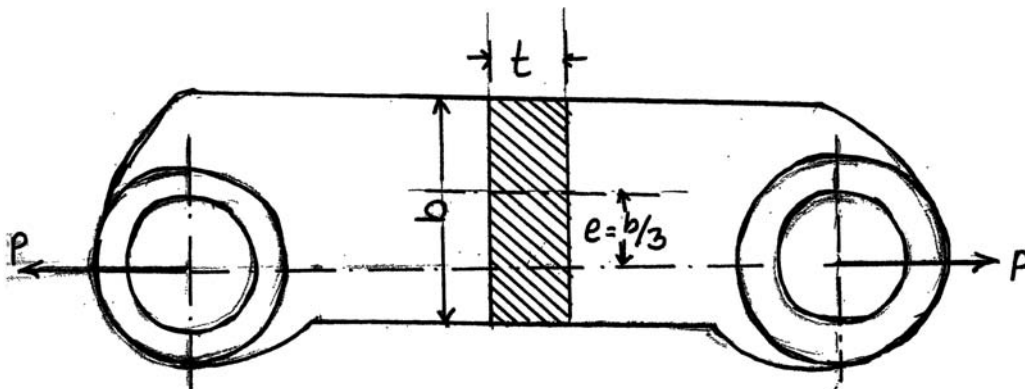

Fig. No. 5
- e) Figure No. 5 shows a M.S. offset link subjected to a pull of 80 kN. The cross-section of the link is rectangular having $b = 120$ mm, $t = 40$ mm. Find the resultant stresses produced in the link.